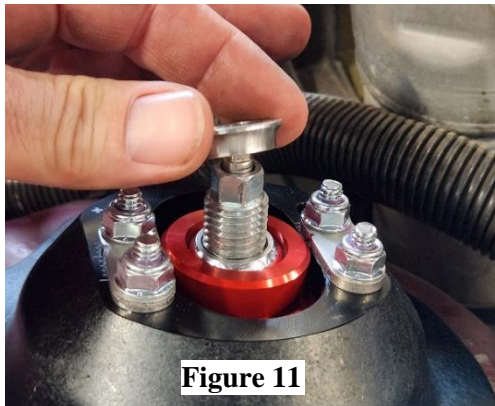

Figure 11
7. Install one beveled spacer with the narrow end down onto the strut top before securing with the strut nut **(Figure 11 & 12)** Torque the upper strut nut to 45 lb. ft. using a 24mm crows foot wrench while holding the hex on the strut rod.